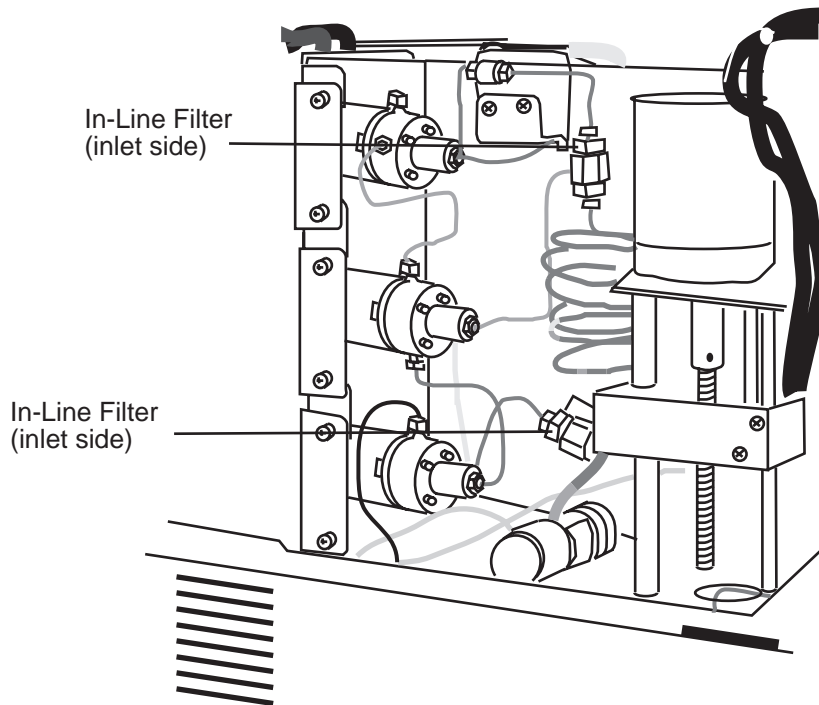

Figure 5-9 Locating In-Line Filters
5. Disconnect the fluid lines at inlet side of the two in-line filters (see Figure 5-9).
2. Remove the autosampler cover and locate the in-line filters (Figure 5-9).
8. Attach the assembled in-line filters as indicated in Figure 5-9.